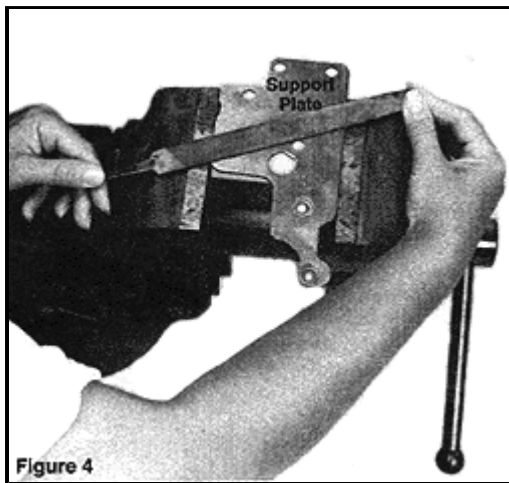

Figure 5
**STEP 12.** Clamp the support plate in a vise and run a file across the surface that will contact the separator plate. (See Fig. 5) You want the support plate to be flat. If your stiffener plate is bent or excessively warped, it should be replaced. (Chevrolet Part #6261195.)